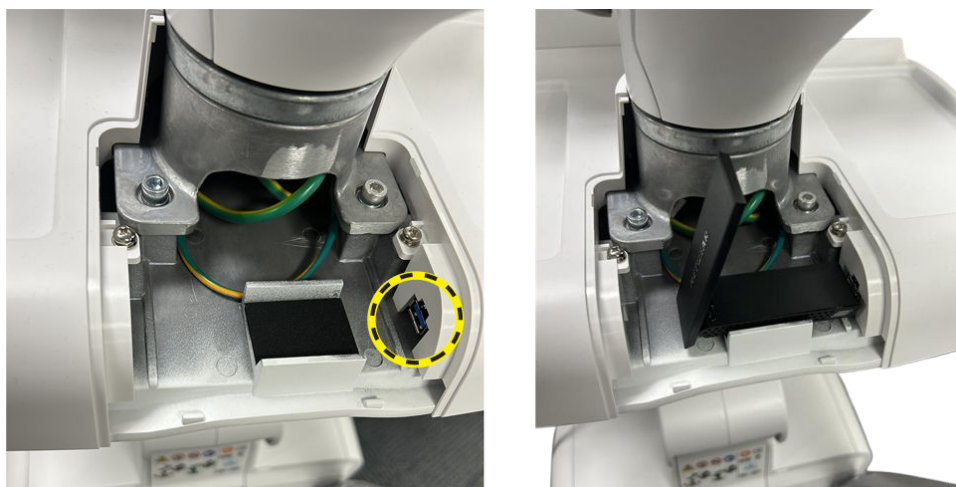

Figure 4-24 Designated USB A port for Wireless Network Adapter
3. Plug the Wireless Network adapter into the intended USB-A port of the ultrasound system as shown in Figure 4-24 Designated USB A port for Wireless Network Adapter on page 112. All software drivers are pre-installed for the designated Wireless Network adapter only.